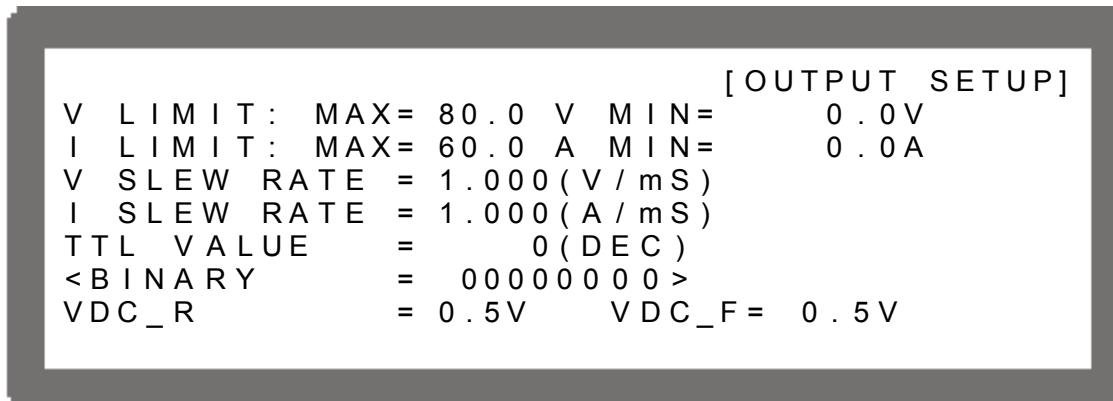

Figure 3-16
1. In the Config Setup page, press the “” key to display the screen shown in Figure 3-16.
**Notice** The values in Figure 3-16 are the default settings for the 62012P-80-60.